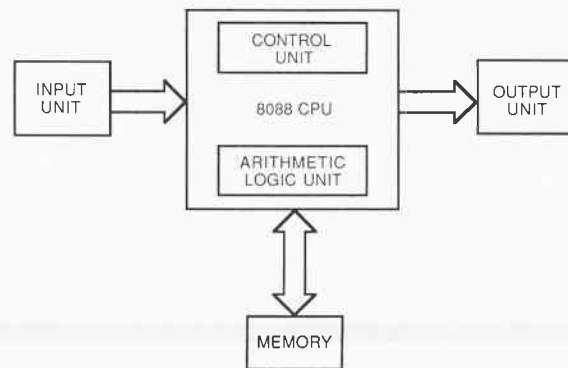

Fig. 1-2. The control unit and arithmetic unit together form the central processing unit CPU.
The arithmetic logic unit and control unit can be combined into a single integrated circuit called a “central processing unit” as shown in Fig. 1-2. Microprocessors are also called central processing units (CPUs) because they can be designed to do the same functions as the central processing unit in a large computer. In the IBM PC, an 8088 integrated circuit (IC) is the systems central processing unit. It accesses memory (fetches an instruction), interprets what the instruction means, and does the actions required by the instruction, and then fetches the next instruction in the program and repeats the sequence. This sequential process was described